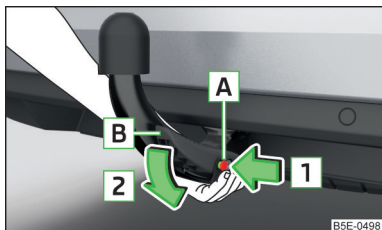

Fig. 305
- ▶ Grasp the ball rod from **below** » Fig. 305.